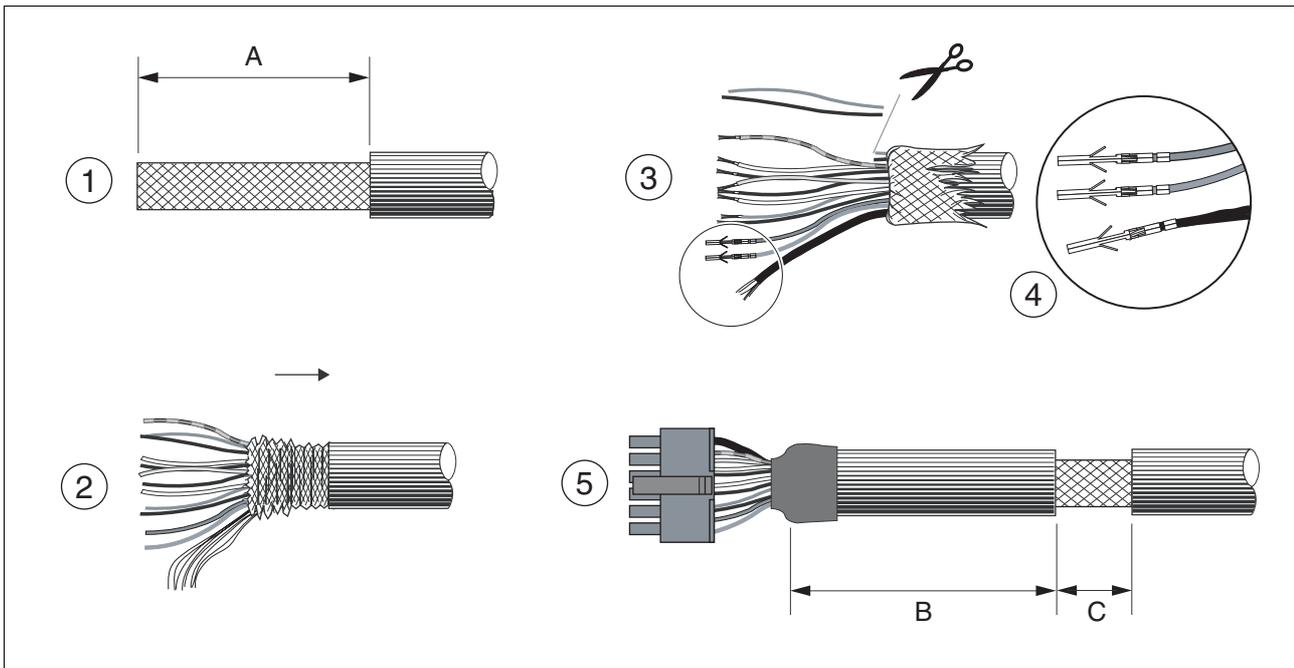

Figure 6.13 Steps (1-5) for fabrication of the sensor cable
- ▶ Use prefabricated cables to minimise the risk of a wiring error (from page 12-262). Step 5 in Figure 6.13 must be carried out even with prefabricated cable. The dimensions for positioning the shield on the housing are applicable when the included EMC plate is used.
- ▶ If you are not using prefabricated wiring, follow the procedure and the dimensions in Figure 6.13.